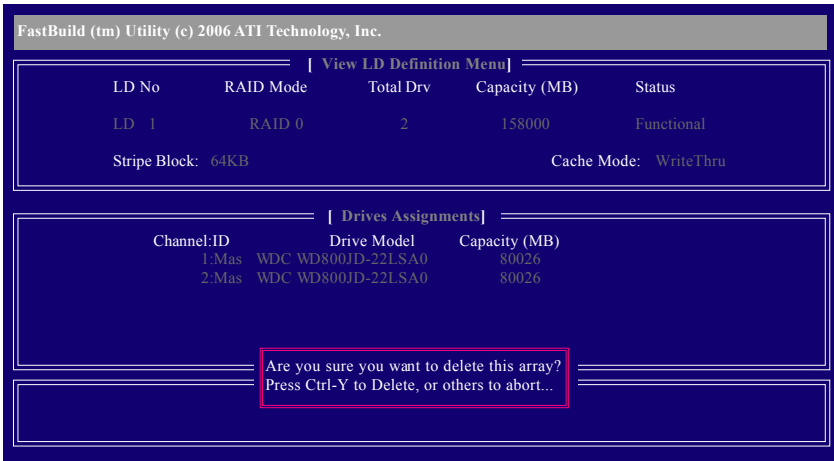

Figure 8
2. The *View LD Definition Menu* will appear (as shown in Figure 8) showing which drives are assigned to this array. Press <Ctrl>+<Y> if you are sure to delete the array or other keys to abort.